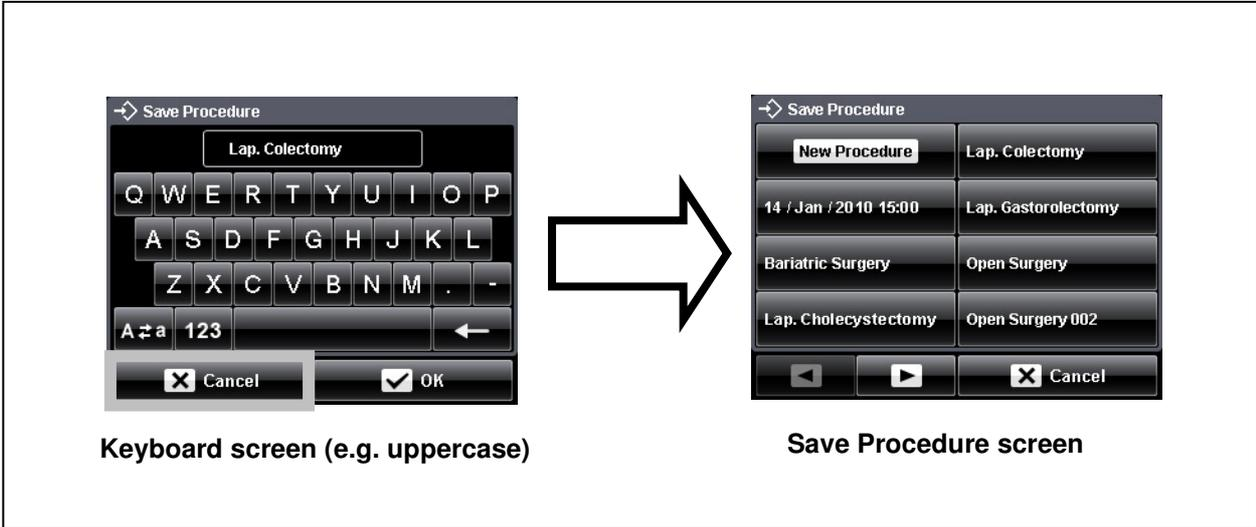

Figure 6.10
- The display returns to the “Save Procedure screen” (see figure 6.10).